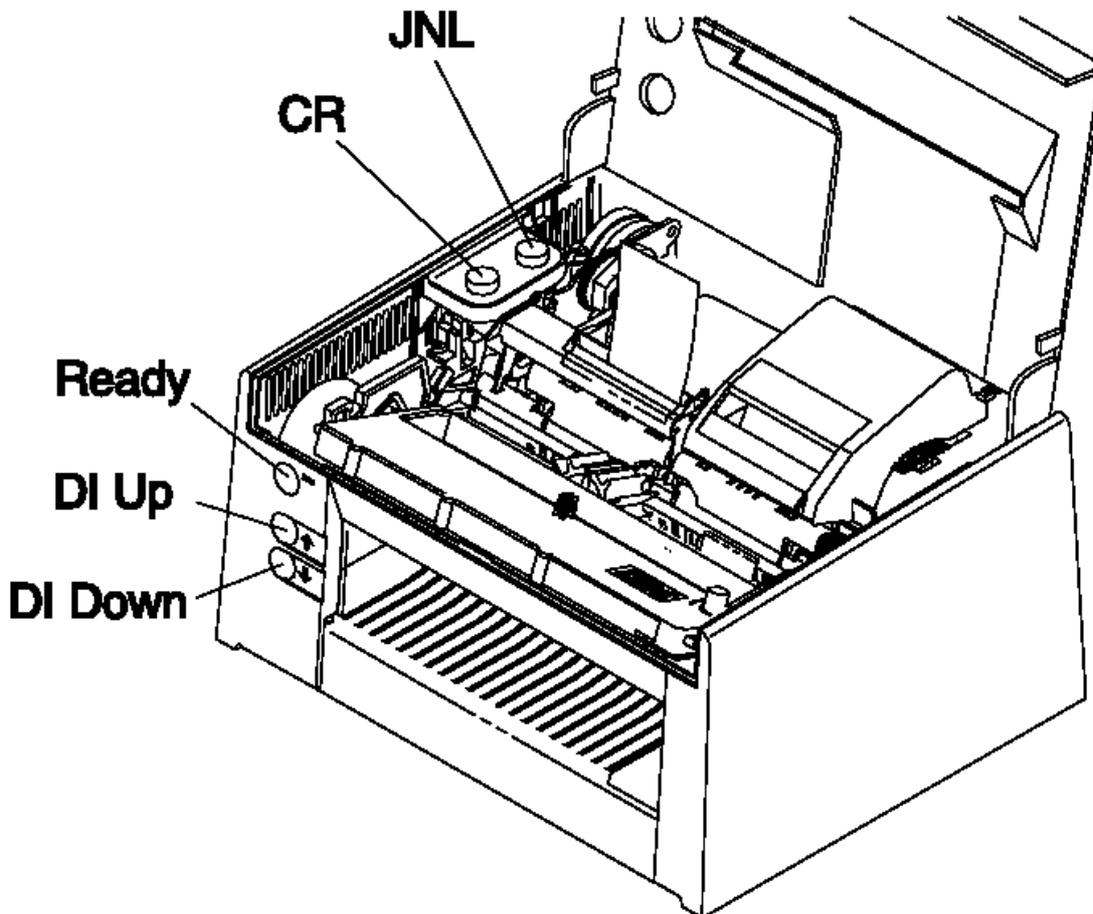

Figure 6-14. Printer Buttons
- Press the DI up button. See Figure 6-14.